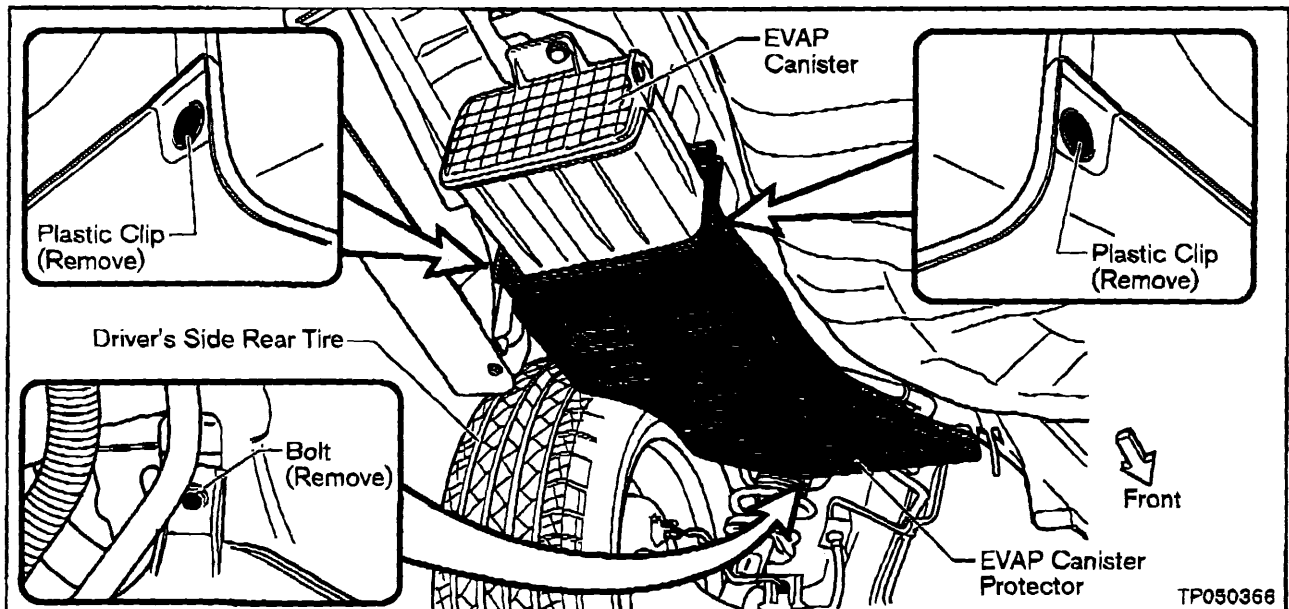

Figure 12
1. Remove two Plastic Clips and one Bolt and remove the EVAP Canister Protector (see Figure 12).